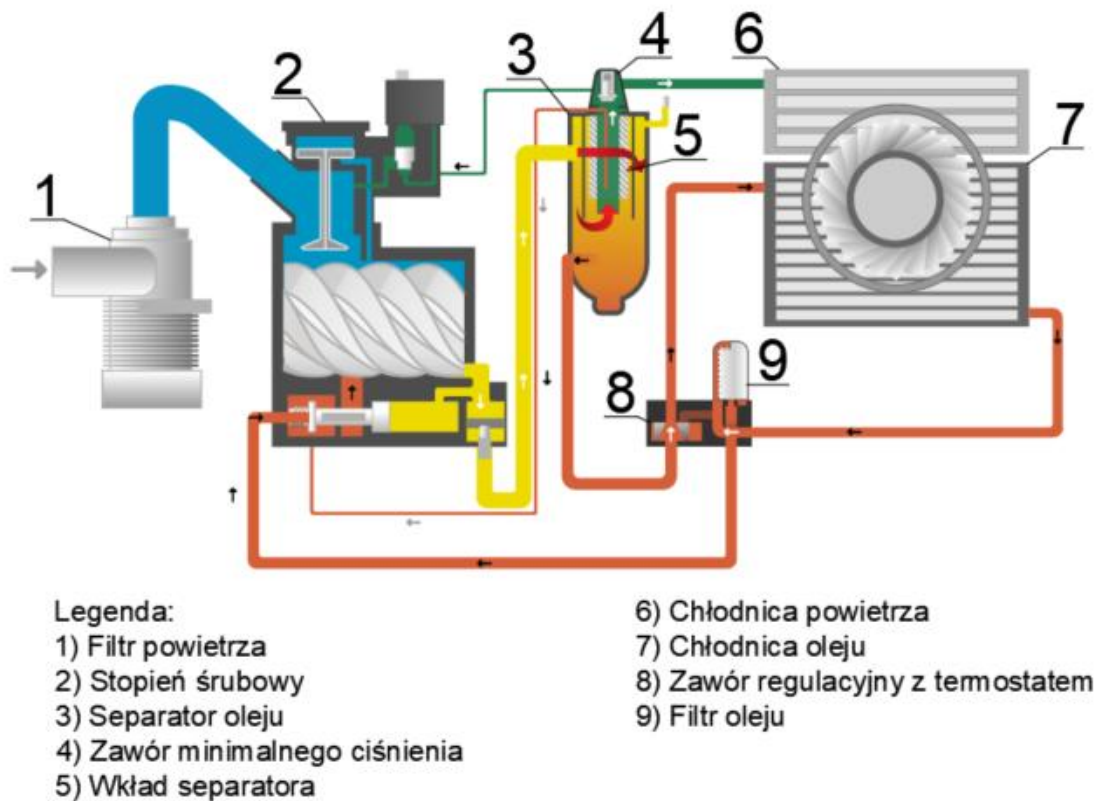

Figure 3. Compressor process diagram.
Figure 3 shows the process diagram of the compressor. Ambient air is drawn in through the filter (1), then directed through the suction valve. Oil, previously cleaned in the filter (9), is injected into the compressed air in the screw stage (2). The oil injection ensures adequate lubrication, sealing and cooling of the screw stage (2). The oil/air mixture is compressed in the spaces between the screw rotors and then directed into the oil separator tank (3), where most of the contained oil is precipitated. From the oil separator, the air flows through the separator cartridge (5) and the minimum pressure valve (4) to the air cooler (6). The oil accumulating in the oil separator (3) flows through a thermostatic control valve (8). When the oil temperature is high, it is cooled in the oil cooler (7) and further pumped to the screw stage. During the start-up phase, the thermostatic valve (8) bypasses the cooler by feeding the oil in a short circuit to the injection bypassing the cooler.